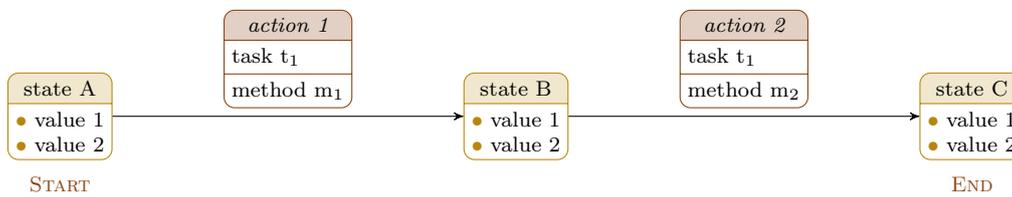

FIGURE 3 Generic Extended Process Diagram (EPD)
- Extended process diagrams — EPD_[T] (Figure 3)